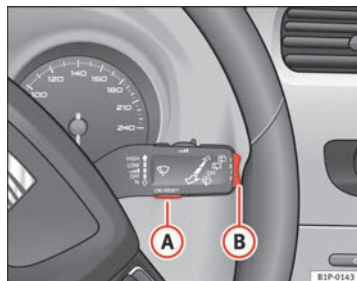

Fig. 45 Windscreen wiper lever (MFI): button A to confirm the menu selection and rocker switch B to change the menu
- Select the option **Vehicle status** from the main menu: “Main menu” and press button **OK** on the windscreen wiper lever **A** ⇒ fig. 45. **or**